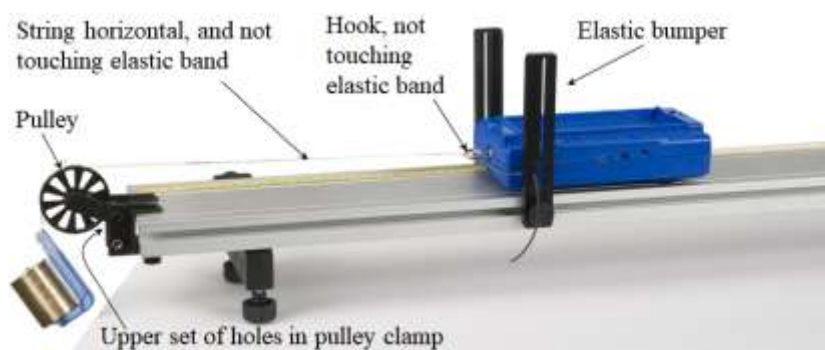

Figure 3: Calibrating a Force Sensor
1. To set up for the calibration of each force sensor, first attach a Hook to each Smart Cart, as shown in Figure 3, and place the cart on the track against the Elastic Bumper. Each hook is now attached to a cart's internal force sensor.
2. Then clamp the pulley onto the end of the track where the elastic bumper is, as shown in Figure 3. Position the track so the pulley is just beyond the edge of the table. Make sure the pulley is attached to the clamp using the upper set of holes in the clamp.
3. Tie a loop in each end of a string about 0.25 m long. Attach one loop to the hook on one cart, and pass the string over the pulley. See Figure 3. Make sure the elastic bumper does not touch the hook or the string. If it does, move the elastic band up or down a notch in the brackets.
4. Attach a mass hanger to the other end of the string so it hangs below the pulley. Add 270 grams to the 5-gram hanger to make a total of 275 grams. See Figure 3.
6. In Capstone, open Calibration in the left toolbar. Then select: Force as the type of measurement; only for the sensor for the cart now set up as in Figure 3 (Red or Blue); Two Standards (2 point) calibration.